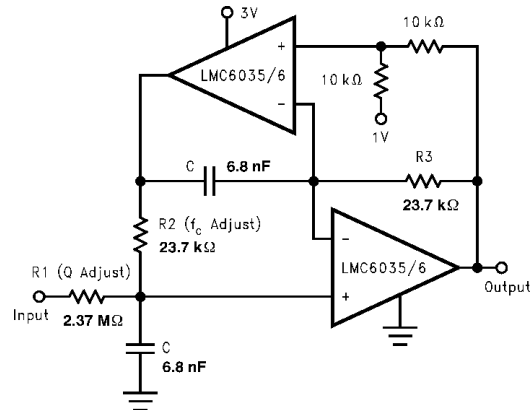

Figure 49. 2 Pole, 1kHz Active, Bandpass Filter
The dual amplifier bandpass (DABP) filter features the ability to independently adjust f_c and Q. In most other bandpass topologies, the f_c and Q adjustments interact with each other. The DABP filter also offers both low sensitivity to component values and high Qs. The following application of Figure 49, provides a 1kHz center frequency and a Q of 100.
1. First choose a center frequency (f_c). Figure 49 represents component values that were obtained from the following computation for a center frequency of 1kHz. $R_2 = R_3 = 1/(2\pi f_c C)$ Given: $f_c = 1\text{kHz}$ and $C_{\text{(chosen)}} = 6.8\text{nF}$ $R_2 = R_3 = 1/(2\pi \times 1\text{kHz} \times 6.8\text{nF}) = 23.4\text{k}\Omega$